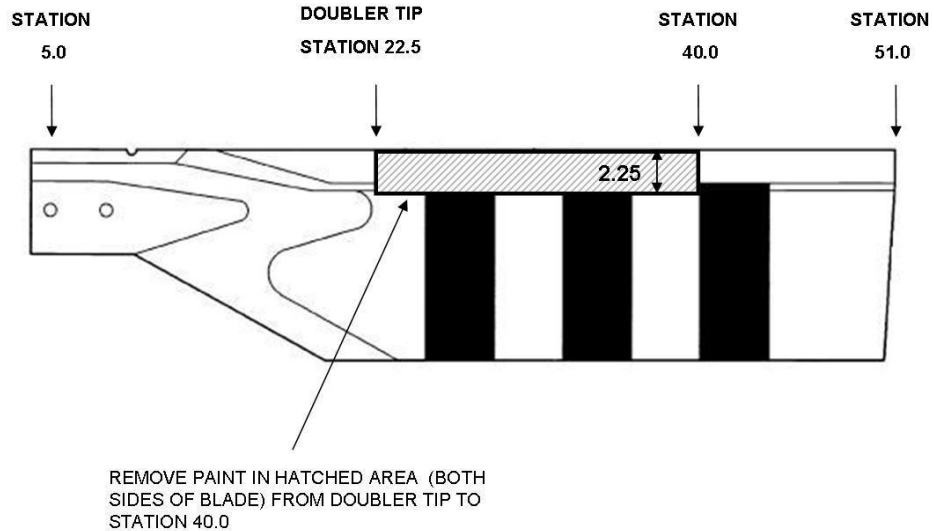

Figure 1
4. Ensure that all paint (on the spar only) is removed from the first 2.25 inches of the leading edge (chordwise) and from the B.S 22.5 (doubler tip) to B.S. 40.0. Refer to Figure 1. This will expose the spar up to the fillet between the blade spar and skin. A fillet filled with adhesive runs spanwise between the blade spar and the skin 2.25 inches aft of the blade leading edge, both inboard and outboard sides. The area to be inspected runs along the edge of the spar fillet and a half inch forward of this point. (Between 1.75 and 2.25 inch from the leading edge of the blade and from Blade Stations 22.5 to 40.0, both inboard and outboard sides).